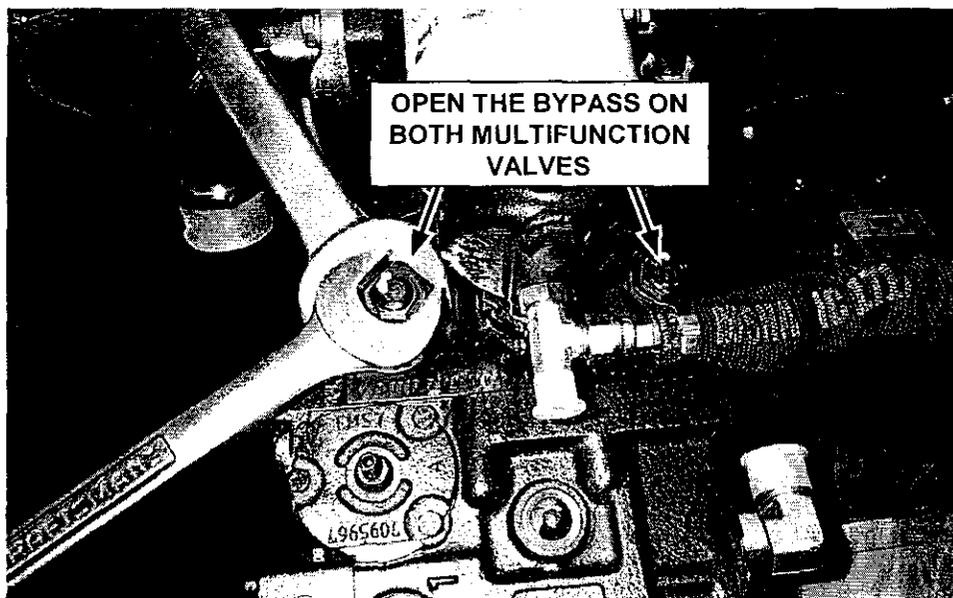

FIGURE 39
8. On the travel pump, open the bypass on both multifunction valves by rotating the middle hex nut while at the same time securing the bottom hex nut. Rotate the middle hex nut 3 rotations counter clockwise. this will put the pump in bypass mode and will allow the tracks to roll freely (figure 39).